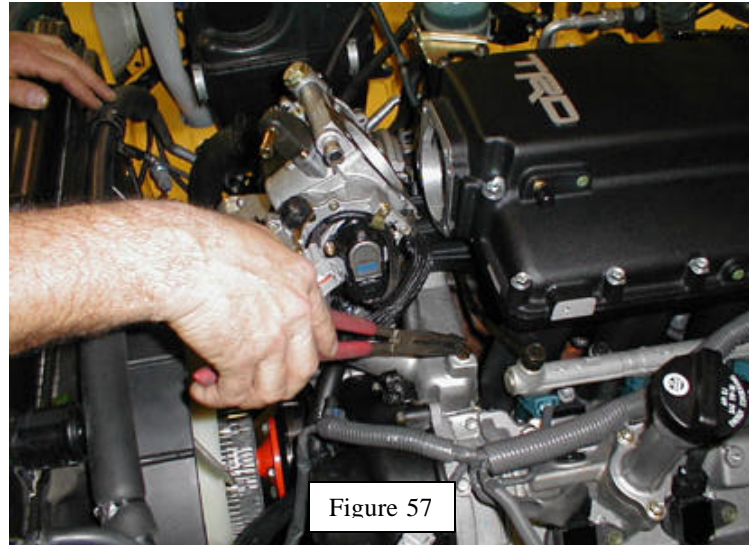

Figure 57
34. Move the throttle body close to the front of the manifold and re-attach the water bypass hoses. Attach the lower hose to the fitting in the water crossover manifold. Re-use the OE clamp (Figure 57). Attach the ½" upper hose to the throttle body from the oil cooler pipe. Use the supplied clamp to secure hose.